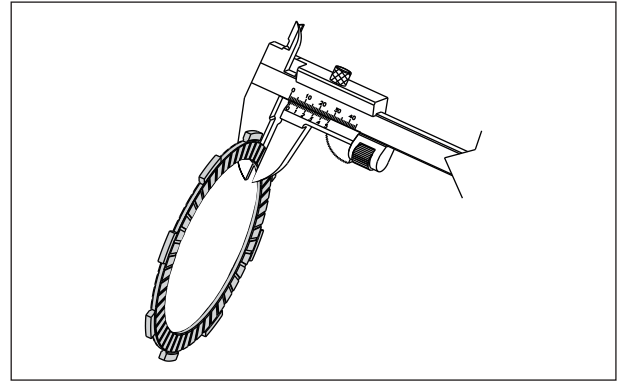

Fig. 3.16
- Inspect the thickness of plate clutch drive using a vernier caliper. If the thickness is less than the service limit, change the plate clutch drive as a set. (Fig. 3.16)